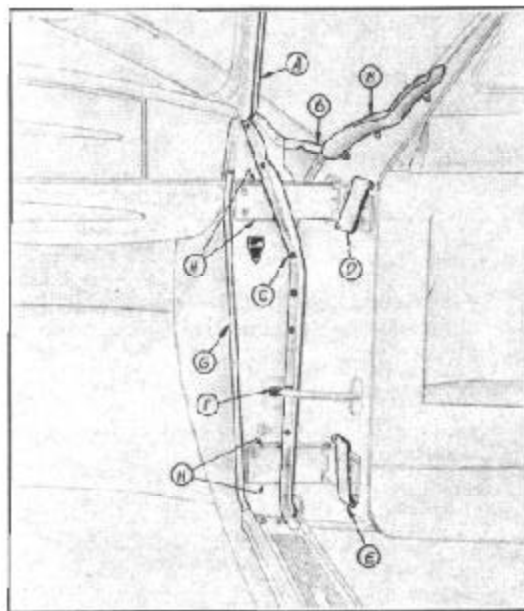
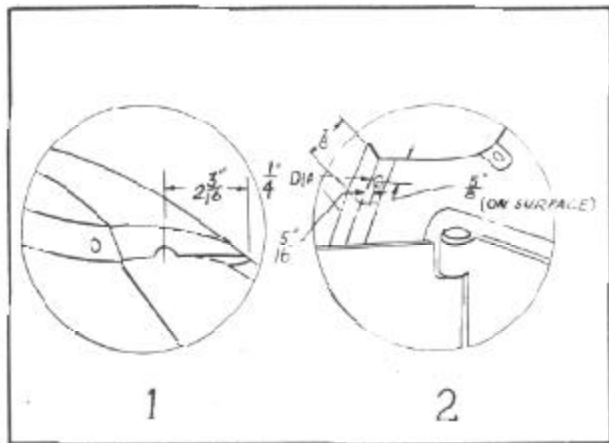

FIGURE 24
FIGURE 27
1. Remove hinge pocket covers (D) and (E), Figure 24, on models so equipped.
2. Drill out check arm rivet (F) using a 1/4" drill.
4. Install hinge pocket covers (D) and (E) and fill hinge pockets above and below hinges with body caulking. Sealer must not project beyond edges of hinge pockets.
**NOTE: These hinge pockets can be installed on cars not so equipped except 1C, 1D, 2C, 2D and 3D. See Figures 24 and 25 for drilling instructions. (Insert (1) for the upper pocket and insert (2) for the lower pocket.)**
1. Remove two Phillips head screws at front of scuff plate, Figure 24.
3. Remove all cement and permagum at hinge pockets (H).
**NOTE:** On the earlier models, remove the "S" Rubber attached to the cowl panel and front fender rear face at (6), Figure 24, and roll portion of fender flange forward approximately  $1/4$ " and  $2-3/16$ " long as shown on Figure 27, Insert (1).
2. Cut off upper end of door front rubber to match lower end of new belt rubber, Figure 27, Insert (2).